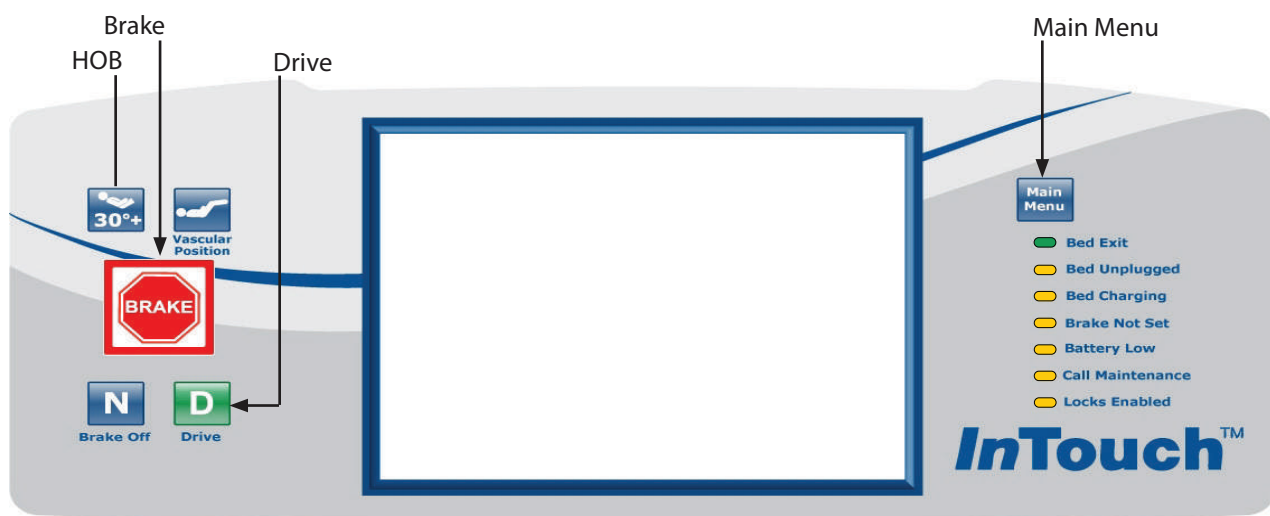

Figure 1: Footboard Control Panel
2. Push and hold the Main Menu button located in the upper right corner of the footboard control panel (see Figure 1 below). Continue pressing on the Main Menu button while executing steps 3-5.